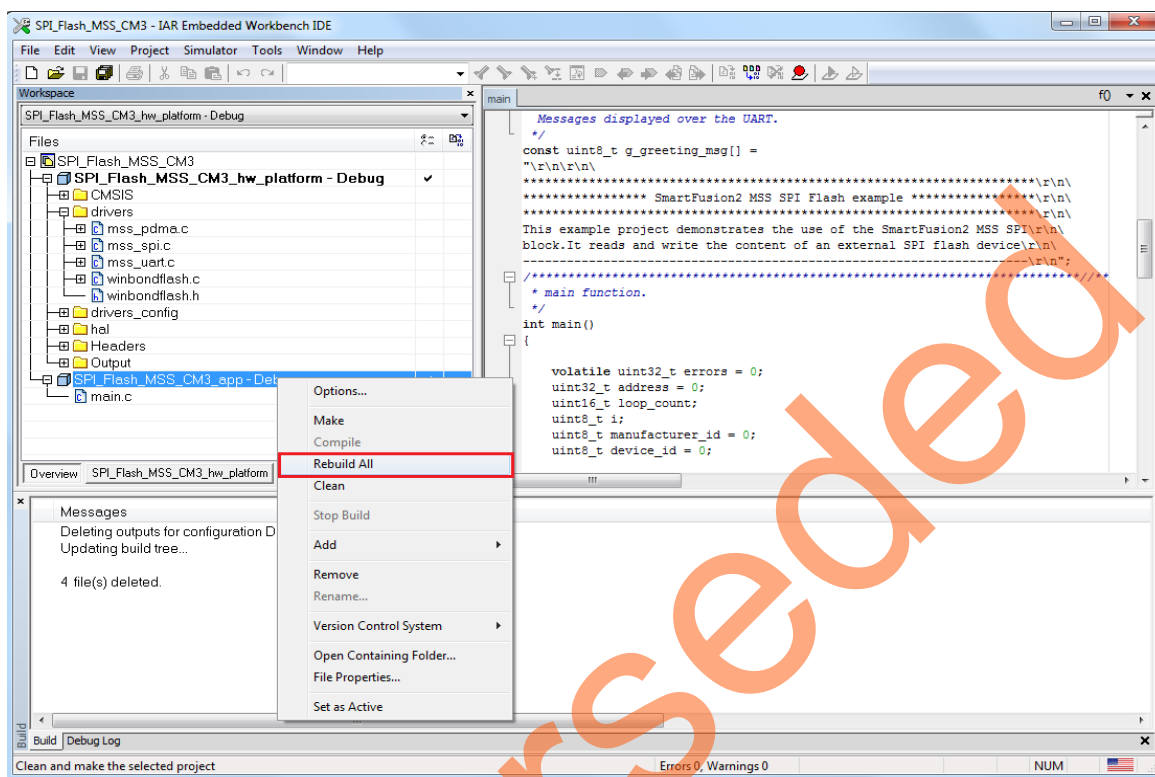

Figure 36 • IAR Workspace - Select Rebuild All
21. Right-click **SPI_Flash_MSS_CM3_app - Debug** project name and click **Rebuild All** as shown in Figure 36.